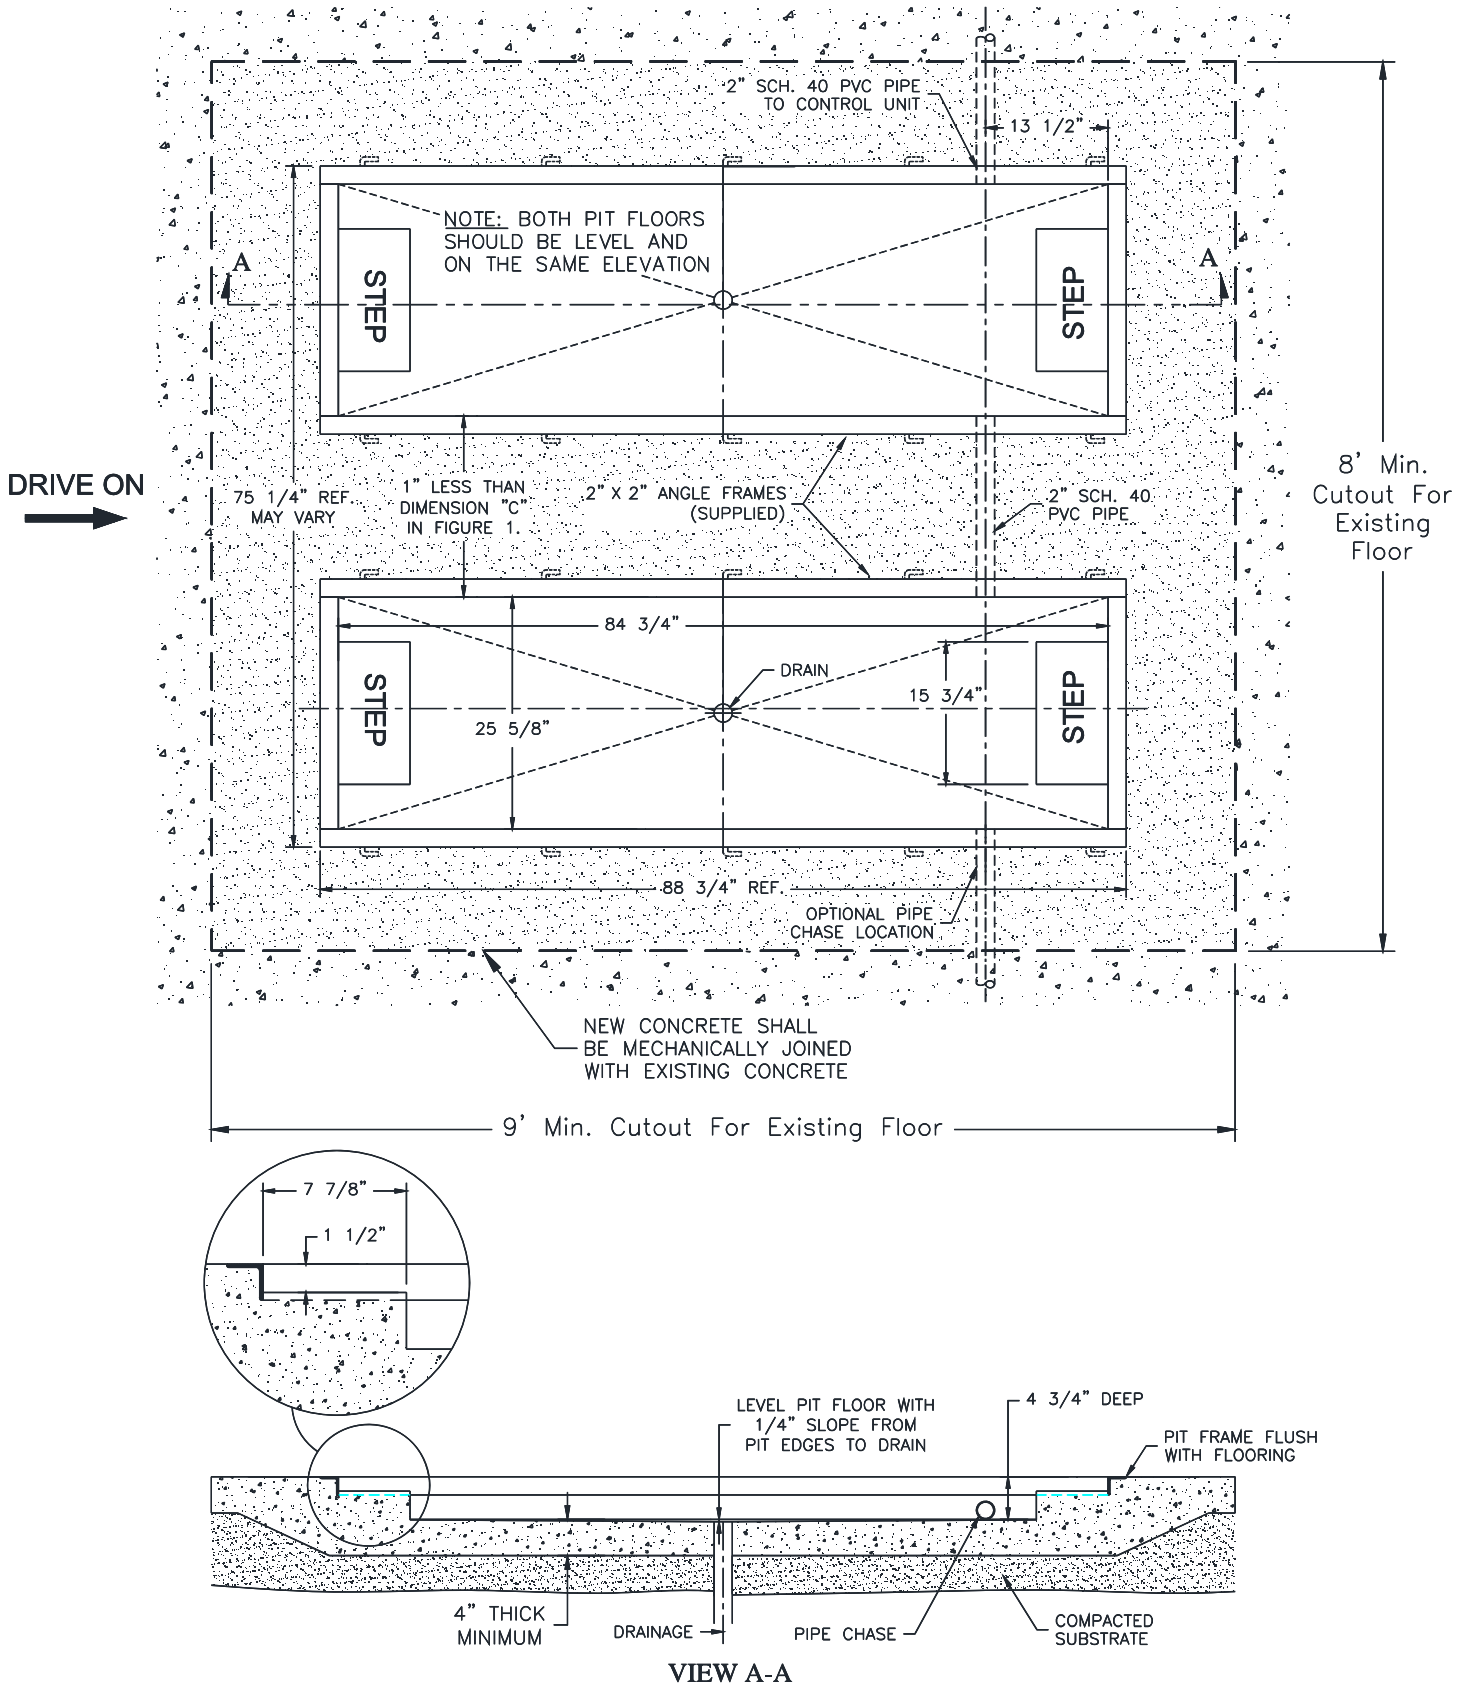

Fig. 3 – Flush Mount Pit Specifications
- 6) For flush mount pit specifications, see **Fig. 3**.